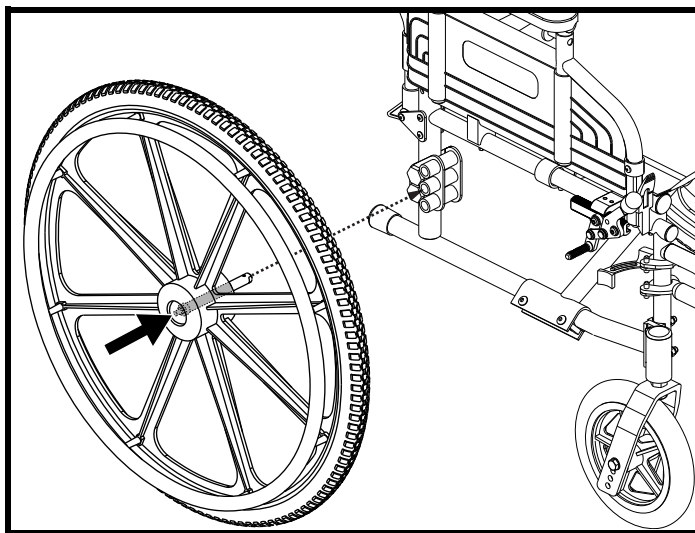
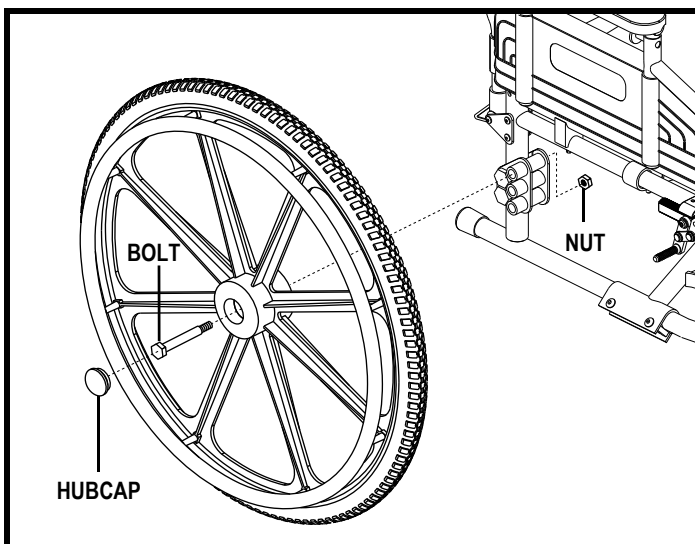

Figure 11. Quick Release Drive Wheel
Figure 12. Bolt-on Drive Wheel
1. Remove the drive wheel. If your wheelchair is equipped with a quick-release drive wheel, press the quick-release button and pull the drive wheel off. See **figure 11**. If your wheelchair is equipped with a bolt-on drive wheel, remove the hubcap, and then remove the nut and bolt. See **figure 12**.
1. Remove the drive wheel. If your wheelchair is equipped with a quick-release drive wheel, press the quick-release button and pull the drive wheel off. See figure 11. If your wheelchair is equipped with a bolt-on drive wheel, remove the hubcap, and then remove the nut and bolt. See figure 12.